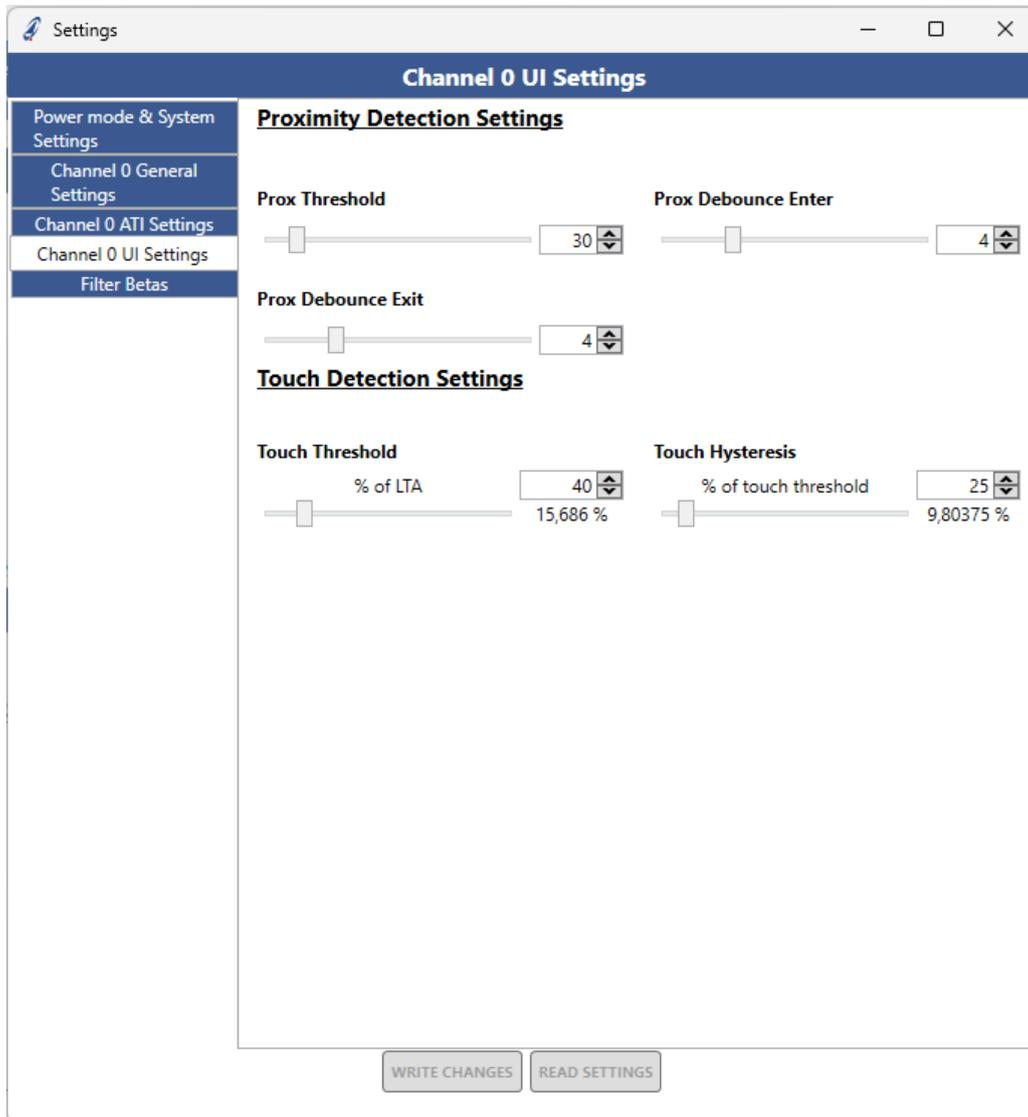

Figure 4.5: Channel User Interface Settings
The “User Interface (UI) Settings” tab can be used to configure the channel event timeout and filter settings as shown in Figure 4.5. Other settings, such as channel proximity and touch thresholds, debounce values, and hysteresis settings, can also be configured as shown in Figure 4.5.